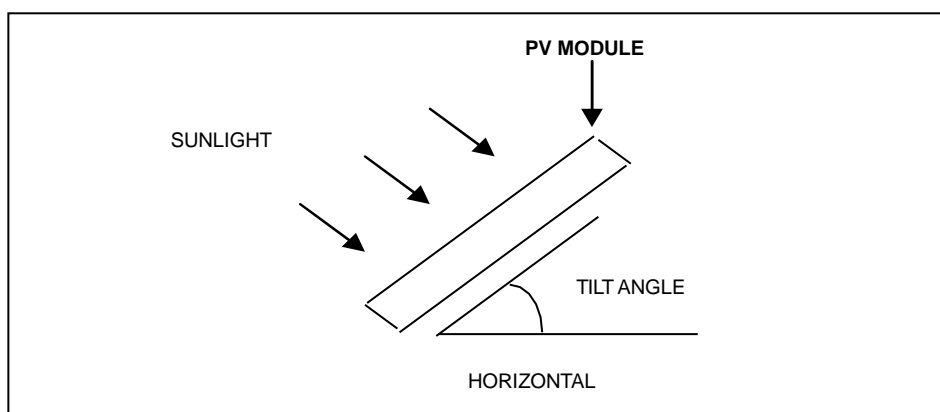

Fig. 7-1 Tilt angle
- ① For the area 0-50m away from the coastline, Risen Energy will implement the offshore module standards. For specific plans, please communicate with Risen technical team for confirmation.
- ② For areas 50-1000m away from the coastline, please use coastal modules. During the installation process, if the unboxed component connectors needs to be left empty at the installation site for a long time, please install a dust-proof plug; When removing the dust plug, the connection of the connectors should be completed as soon as possible; For support parts that are in direct contact with the module frame, it is recommended to use stainless steel or aluminum materials, and take anti-rust measures at the contact parts; It is not recommended to use steel frames for the frame, and secure the component connectors in a location where they are protected from rain.
- ③ For offshore areas beyond 1000m from the coastline, conventional modules can be used, but please communicate with Risen technical team for advice. During installation, secure the component connectors in a location where they are protected from rain.
- ④ If Risen modules are used in offshore environment projects without evaluation, Risen will not assume any responsibility if the modules fail due to environmental factors.
- Installation inclination refers to the Angle between the solar photovoltaic module and the ground plane, as shown in Figure 7-1.